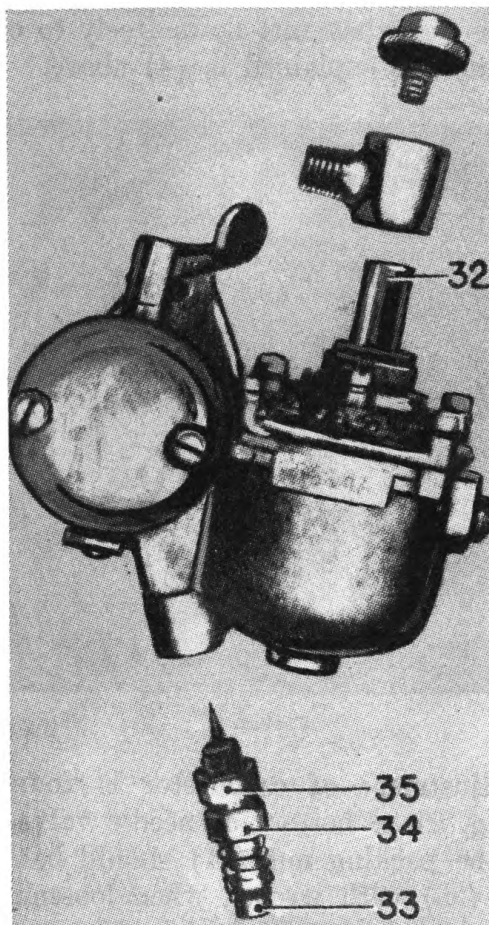

FIGURE 2.
(4) *Carburetor*.—(a) Keep strainer (32, fig. 2) in fuel inlet connection on top of carburetor bowl free from sediment. When this strainer is being inspected, it is good practice to open fuel line shut-
(c) Where readjustment of carburetor is found necessary, the plug screw (33, fig. 2) at bottom of needle valve assembly should be removed and the packing nut (34) should be loosened slightly. (Hold gland nut (35) with wrench when loosening packing nut.) The needle valve which is concealed in packing nut can now be adjusted by inserting small screw driver in its slotted head (36, fig. 7). Turn clockwise for leaner mixture or counterclockwise for richer mixture. If the needle valve is completely out of adjustment the correct setting is approximately $11\frac{1}{2}$ turns from the closed position. (Do not screw needle valve hard against seat as this will damage both valve and seat.) The engine can be started with this setting.